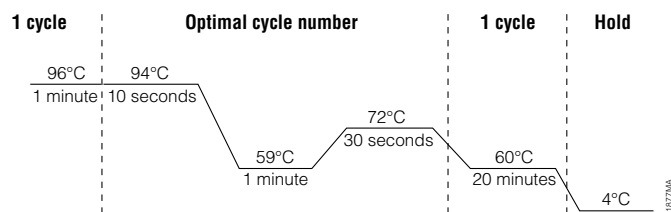

Figure 31. Thermal cycling protocol for the GeneAmp® PCR System 9700 and ProFlex® PCR System.
2. Select and run the recommended protocol, which is provided below and in Figure 31.